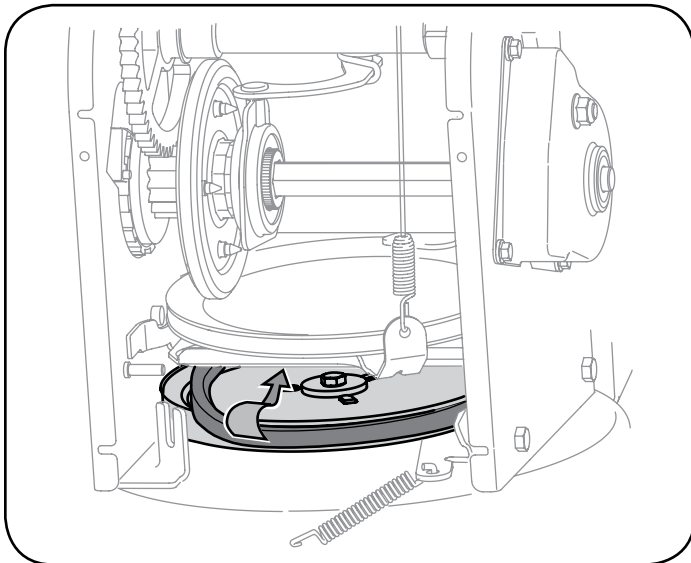

Figure 58
- Remove the belt from around the auger pulley, and slip the belt between the support bracket and the auger pulley. See Figure 58.